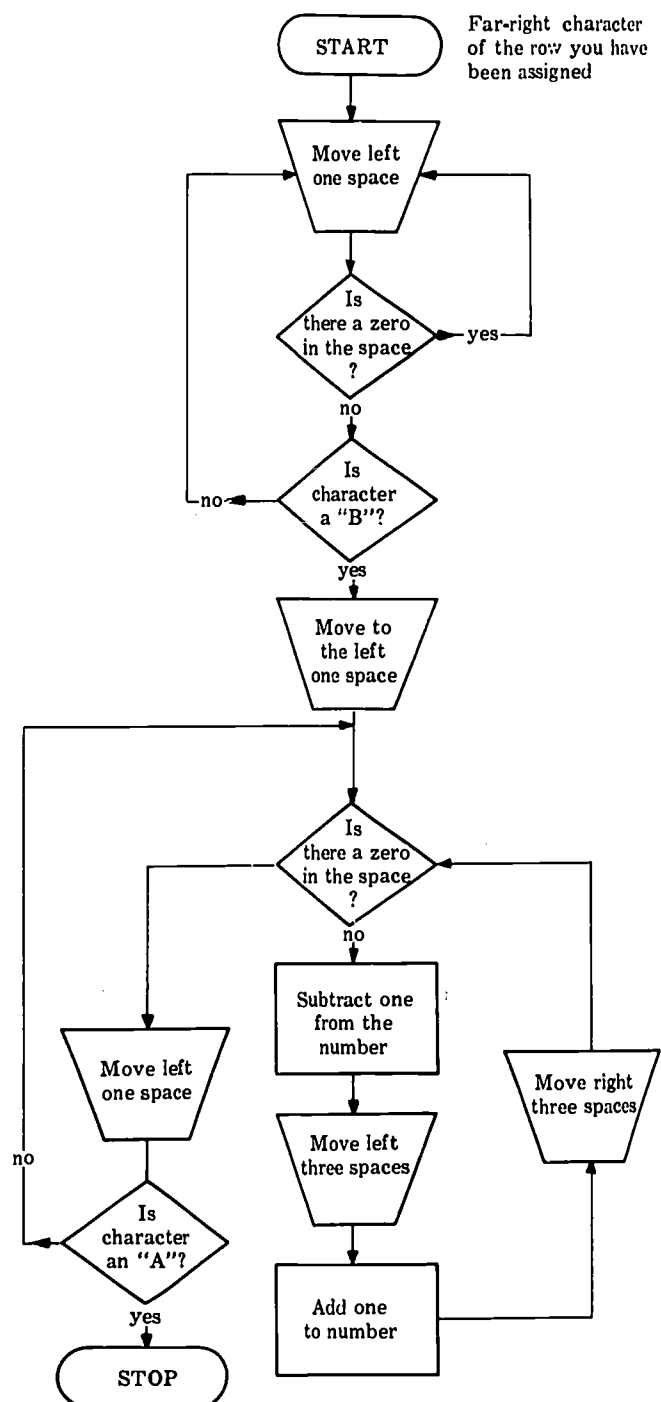

Fig. 27-1. Branching Flowchart
Using a branching flowchart (Fig. 27-1) and some input data, *simulate the operation of a digital computer to solve a problem in addition.*
2. Figure 27-1 is a flowchart that resembles a program used in a digital computer.